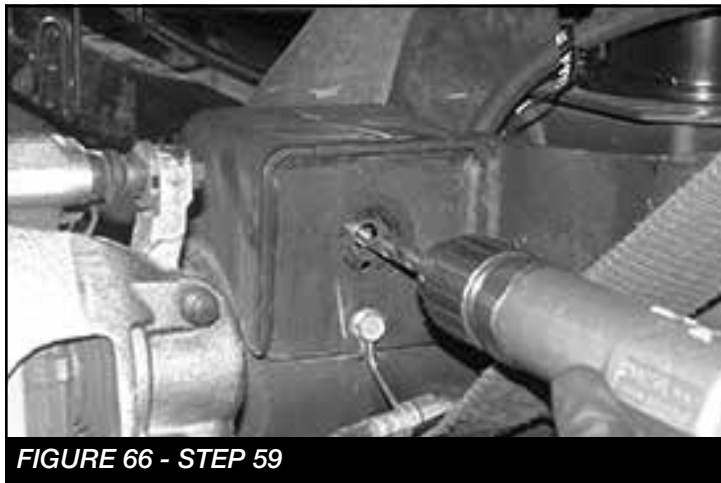

FIGURE 66 - STEP 59
59. Next, using a 1/2" bit, drill the old brake line bracket hole to allow for the new track bar support bracket in a future step. **SEE FIGURE 66**